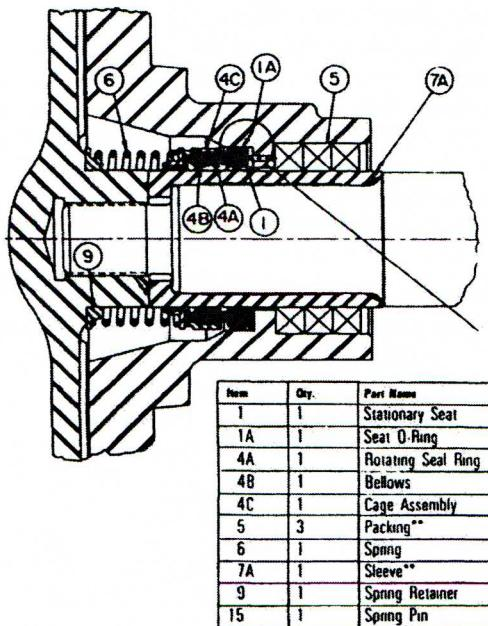

Figure 9
2. Make sure the shoulder where the stationary will sit and the inside of the stuffing box (3) is clean and that the 30° bevel on the 3-3/8 inch I.D. is free from burrs and sharp edges. Coat the I.D. of the stuffing box stationary seat packet with oil. Place the stuffing box on a table or other flat surface with the impeller side facing up.
5. Lubricate the inside of the frame (9) where the stuffing box (3) slips in with an anti-seize compound. Install the stuffing box and secure with bolts (3A-1/2D x 1-1/4 inch). Care should be taken to prevent bumping of the stationary seal on the shaft end.
6. Remove the rotating seal ring (4A of Figure 9) if it is not glued into position and store it in a safe place. Gluing can be determined by pulling on it gently. Coat the O.D. of the shaft sleeve (7A) and the I.D. of the rubber bellows (Item 4B of Figure 9) with a thin coat of oil.
7. Place the sleeve (7A) with the impeller end up on a table. The impeller end is the end with the smallest I.D. With the sealing face of the rotary unit facing down and the rubber end up, gently ease the rubber bellows over the sleeve and push it to the bottom half of the sleeve. (It is not necessary to push it all the way to the bottom). If the rotating seal ring (4A) has been removed, lightly coat the face of the bellows (Item 4B of Figure 9) with grease. (This is necessary to hold the rotating seal ring in place during assembly). Reinstall the rotating seal ring into the cage assembly (Item 4C of Figure 9).
8. Make sure no foreign material is present on the seal faces. Make sure the shaft (7) is free of nicks and burrs and is clean and dry. The sleeve area of the shaft, the shaft threads and the shaft face must be lightly coated with anti-seize compound before installing the sleeve (7A). Install the sleeve with a twisting motion. As the seal faces make contact, continue to push the sleeve through the I.D. of the rotary seal element until the gap between the sleeve and the shaft shoulder is approximately 1/32 inch.
9. Install the spring retainer (Item 9 of Figure 9) and the impeller O-ring (2A) in its groove and coat with anti-seize compound. Place the mechanical seal spring (Item 6 of Figure 9) over the rotary unit of the seal (which is inside the stuffing box cover).
10. Thread the impeller (2) onto the shaft (7). Be sure that the spring engages in the retainer on the impeller. Tighten to approximately 60 ft./lb. of torque.
12. We recommend that the three shaft packing rings (5) are not installed until the seal fails. The rings are for emergency backup until the mechanical seal can be replaced. When they are installed, first grease them. Insert all packing rings alternating the splits from